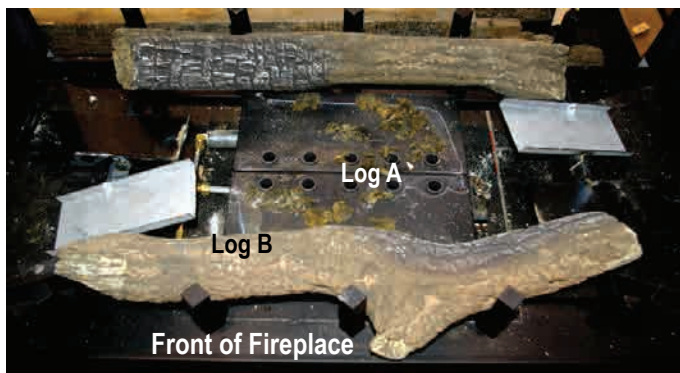

Figure 23. Log "A" & "B" Installation.
The H*42DF*-ST is supplied with eight (8) fibre logs. The two bottom logs ("A" & "B") are mounted on the burner grate as shown in Figure 23.